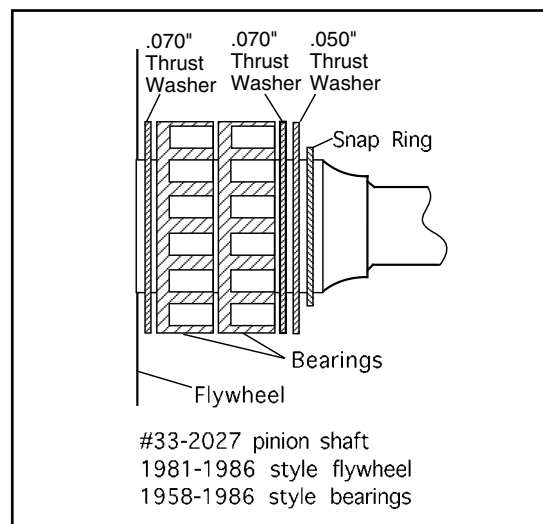

Figure 2
2. 1981- 1986 stock flywheels and S&S pinion shaft 33-2027 - two .070" thrust washers and one .050" thrust washers are normally used. Typical washer and bearing arrangement - .070" washer against flywheel, bearings, .070" washer, .070" or .050" washer, and snap ring. See **Figure 2**.